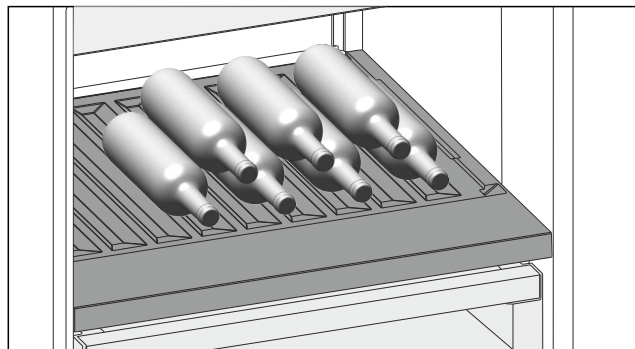

Fig. 209 Example illustration
- ▶ Place bottles in the back row with their bases against the back wall. (see Fig. 209)